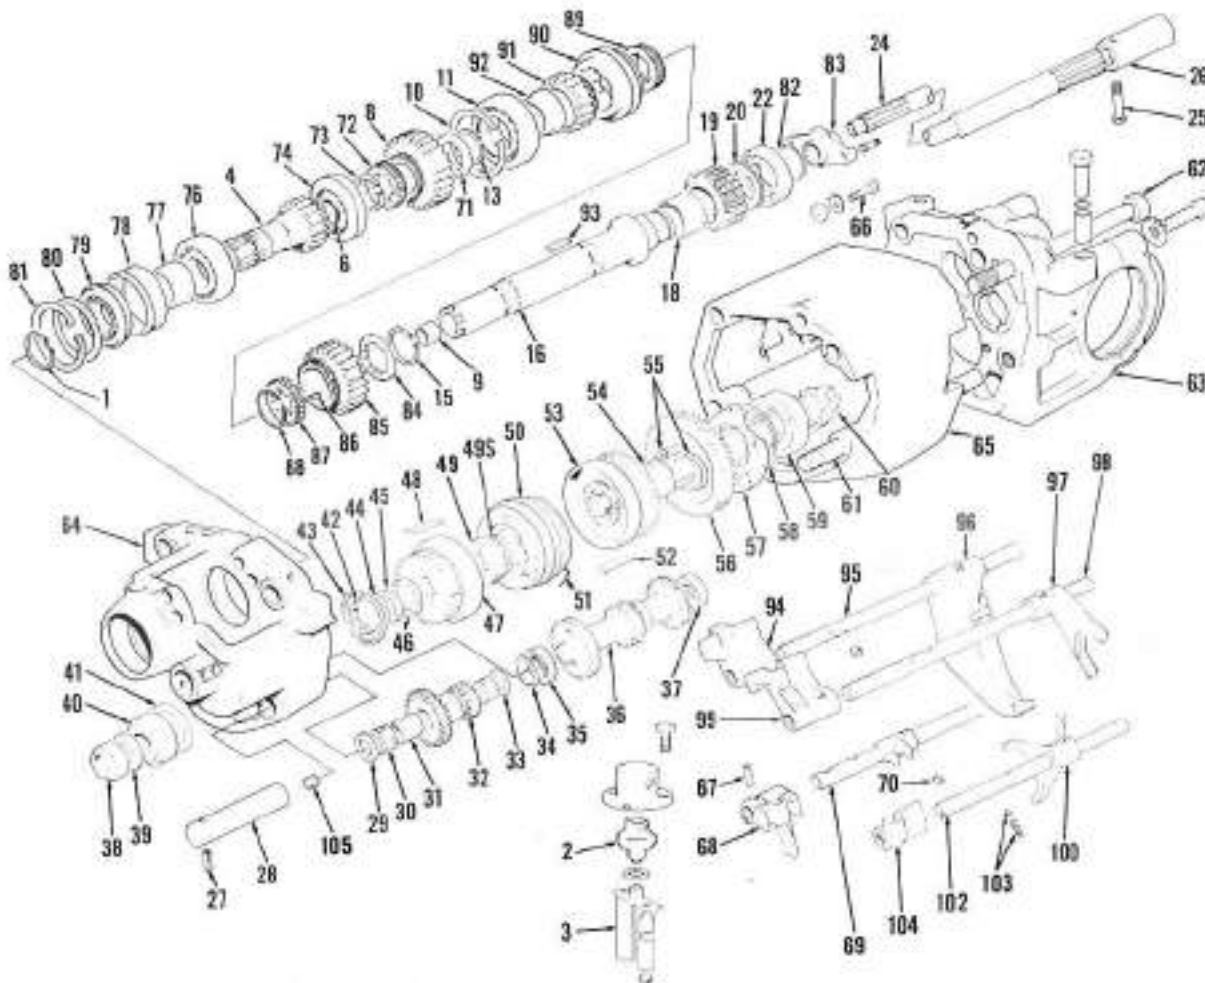

Fig. 112—Exploded view of transmission gears, shafts and associated parts used for 1410 models. Refer also to Fig. 108 and 112.
On 12-speed models, refer to Fig. 112 or 113 and proceed as follows: Remove pin (67), push creeper drive shift rail (69) from front end plate (64) and remove shift fork (68), detent ball, detent spring and interlock pin (70). Lift creeper driven gear (8) from front end plate. Remove snap ring (39) from front end of creeper drive gear (4), then remove gear, bearing (76) and spacers (77 & 78) from rear side of front end plate. Remove snap ring (1) from bearing (79) from end plate. Remove spring pin (27) and drive idler shaft (26) forward, removing plug (not
Fig. 112—Exploded view of transmission gears, shafts and associated parts used for Model 1210. Refer to Fig. 108 for 885, 885N and 995 models and to Fig. 113 for 1410 model.